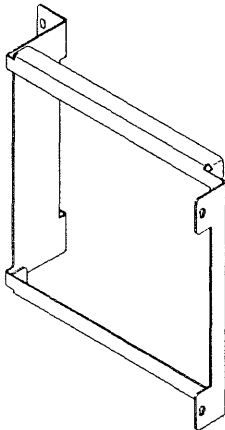

Figure 1-12. LIB2 Shipping Retain Bracket
- Keep the LIB2 board shipping retain brackets in place, if any, they will be removed later (Figure 1-12 on page 1-10).
In front of each LIB2 board, a shipping retain bracket (Figure 1-12) holds the LIC5/LIC6 cassettes in place.